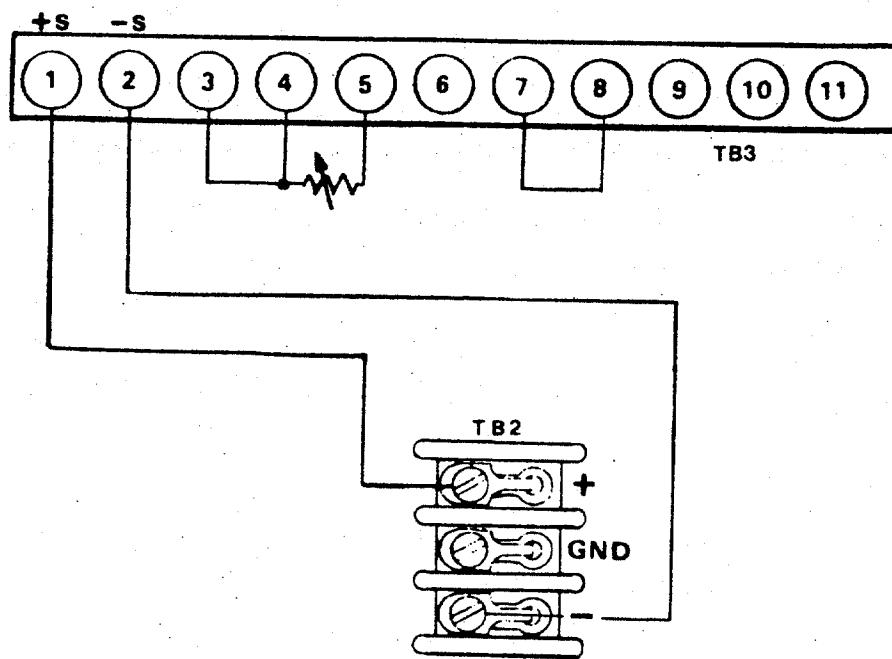

Figure 3-5 Voltage Mode Programming Connections
### 3.2.3 Resistance Programming Voltage Mode (Figure 3-5)
2. Remove link between terminals 5 and 6, and connect a programming resistor between terminals 4 and 5 (Figure 3-5). Use shielded or twisted wire for interconnecting leads.